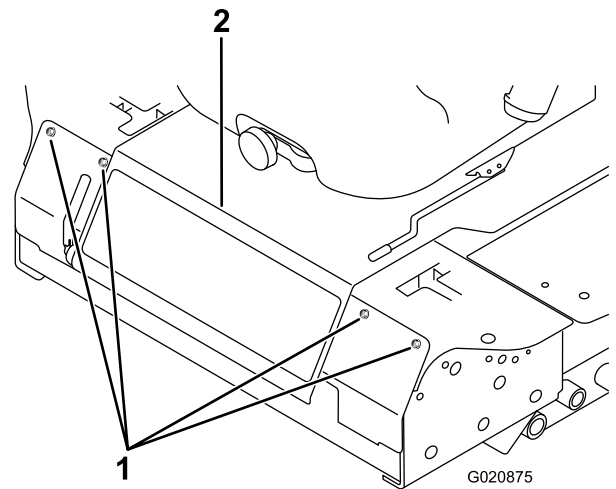

Figure 82
2. Remove the bolts securing the front panel and remove the panel (Figure 82).